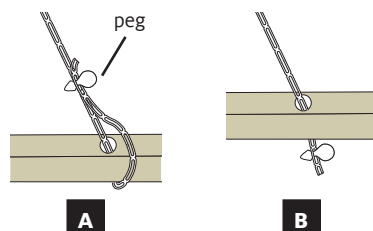

FIGURE 1: RELEASING THE BRAKE CORD
1. Slightly loosen the black fold knobs on each side of the loom (Figure 1, page 3). Generally, a single turn will do.
5. Start folding the loom: Loosen the fold knobs one full turn and pull them up in their slots (Figure 1, page 3).